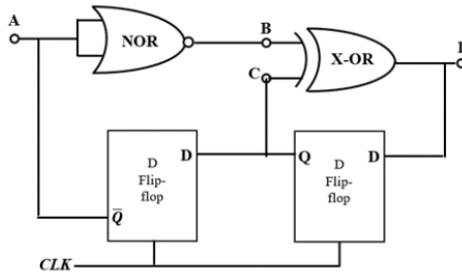

Fig. 5.8
8. Find the decimal equivalent of $ABCD$ in Fig. 5.8.